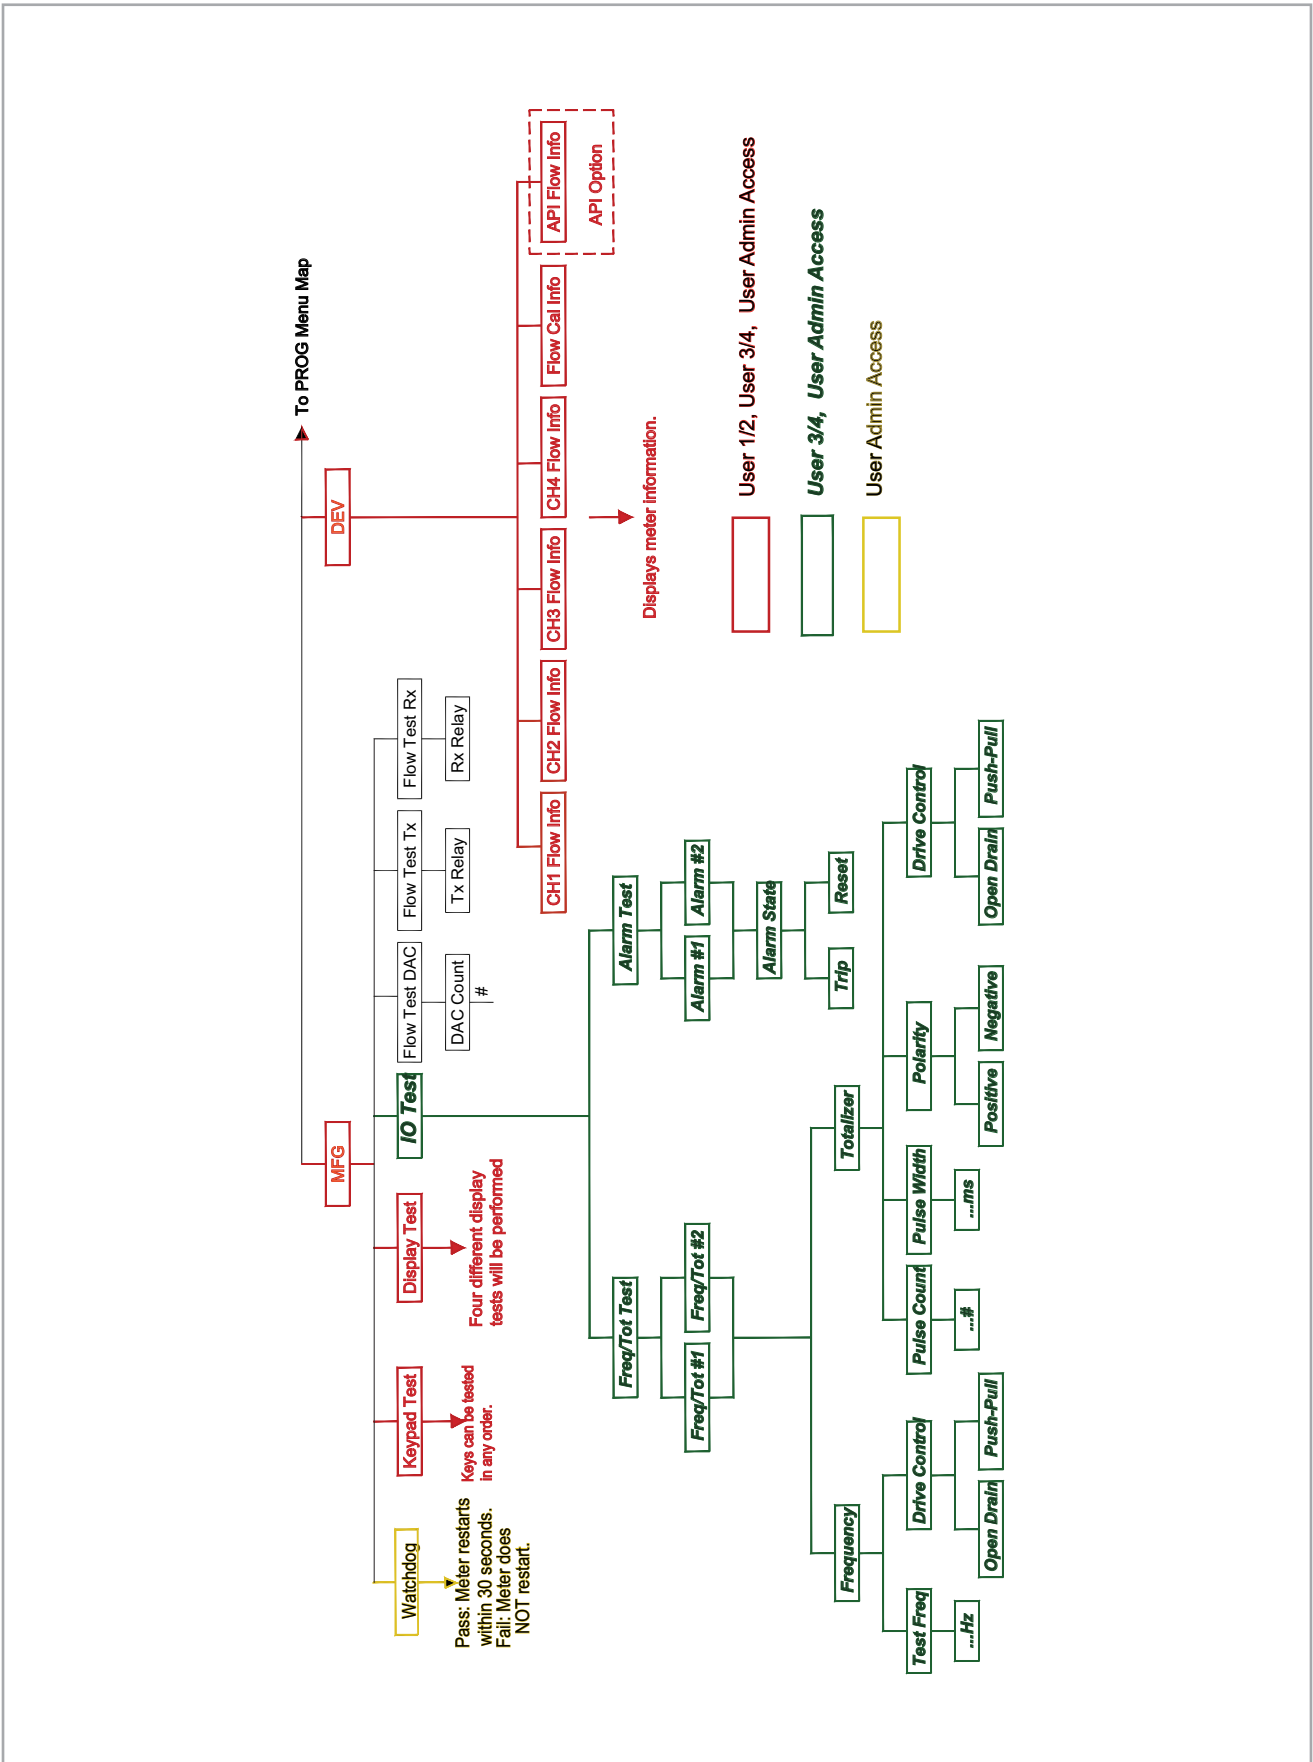

Figure 65: MFG and DEV menu map
- Figure 65, "MFG and DEV Menu Map," on page 91